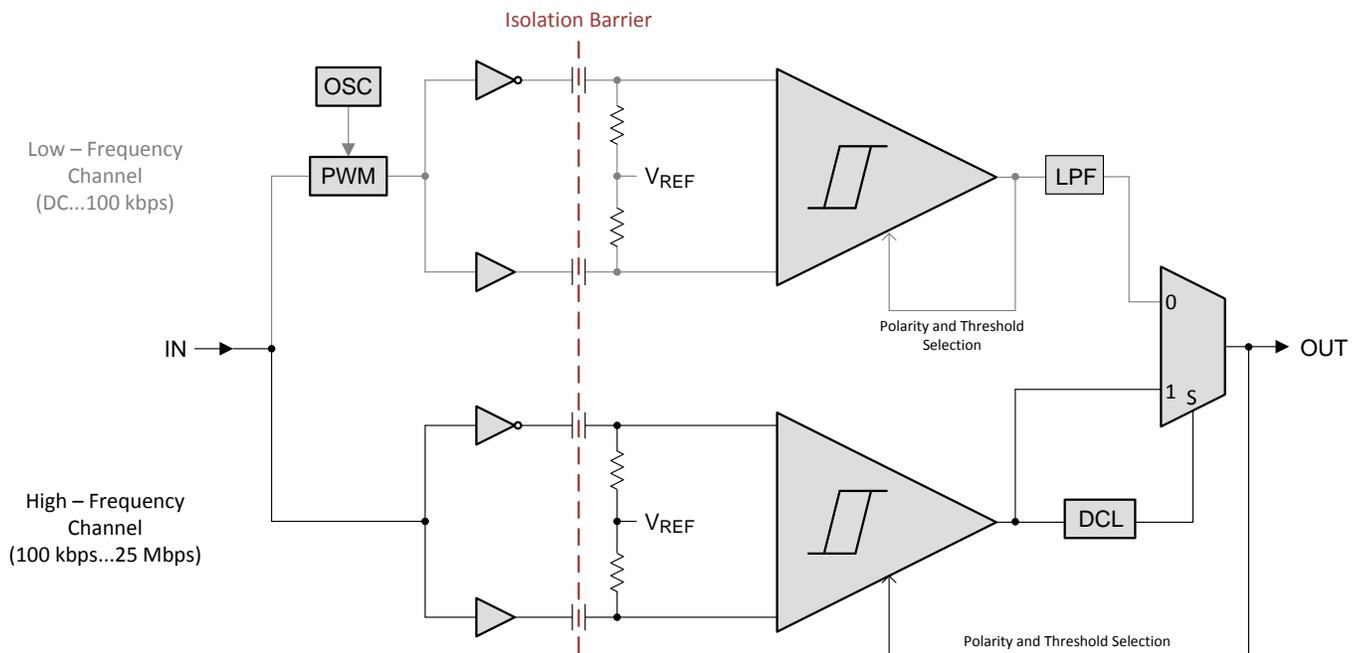

Figure 17. Conceptual Block Diagram of a Digital Capacitive Isolator
The isolator in Figure 17 is based on a capacitive isolation barrier technique. The I/O channel of the device consists of two internal data channels, a high-frequency (HF) channel with a bandwidth from 100 kbps up to 25 Mbps, and a low-frequency (LF) channel covering the range from 100 kbps down to DC.